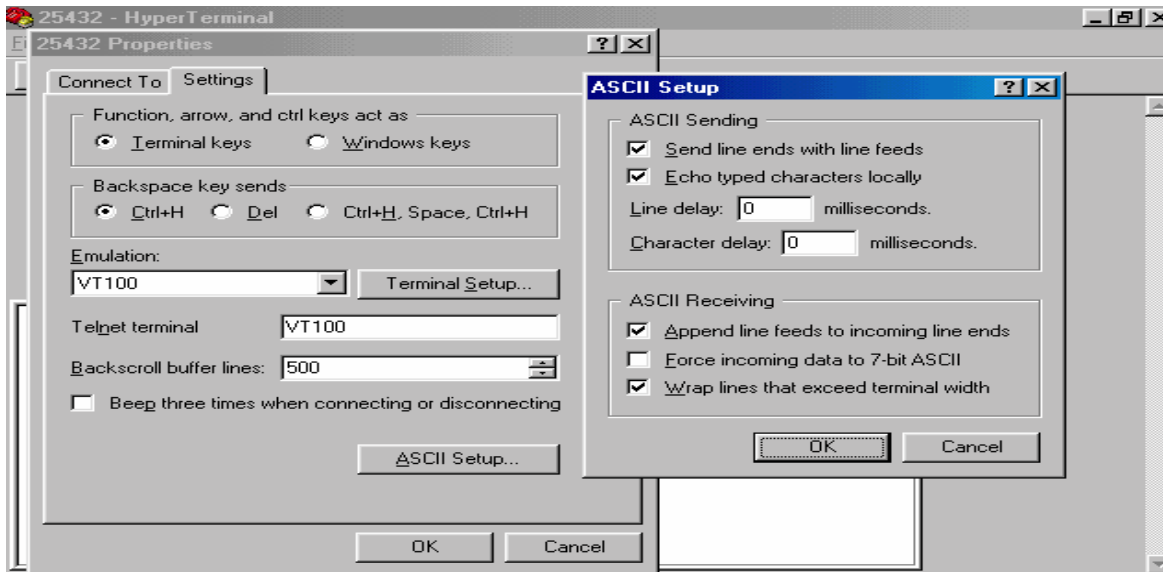

Figure 1. ASCII Setup
- Select the File → Property → Setting → ASCII Setup. Set the associated parameters as shown in Figure 1.